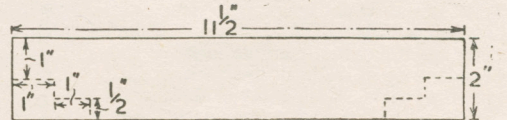

Fig. 2—Top view showing corner saw cuts
Having shaped the hole, tackle the front two ends of the body, cutting with a saw to the dimensions seen in Fig. 2. This produces the striking column effect, the modern note. The back, of course, is left plain.
One pennant piece in Fig. 2 is now gummed under Fig. 1A and the other pennant under the reverse end. Then the whole thing is gummed down at the areas marked (G). You will find it most useful to have a supply of pins at hand while gumming to hold the various parts in position. If there is very little lettering on the card the bow may be decorated with a little fern.